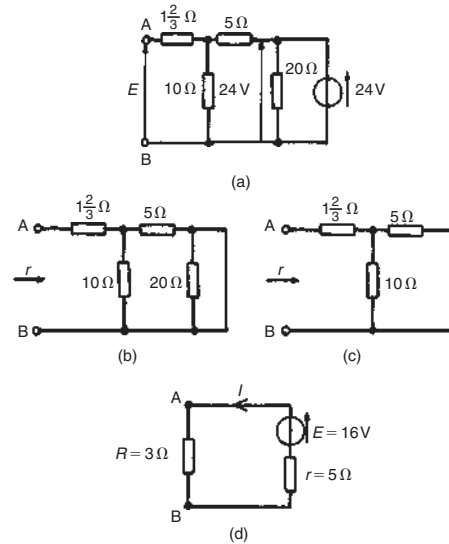

Figure 13.46
- (i) The 3Ω resistance is removed from the circuit as shown in Fig. 13.46(a).
- (iii) Removing the source of e.m.f. and replacing it by its internal resistance means that the 20Ω resistance is short-circuited as shown in Fig. 13.46(b)
since its internal resistance is zero. The 20Ω resistance may thus be removed as shown in Fig. 13.46(c) (see Section 13.4 (vi)).
From Fig. 13.46(c), resistance,
- (iv) The equivalent Thévenin's circuit is shown in Fig. 13.46(d), from which, current,